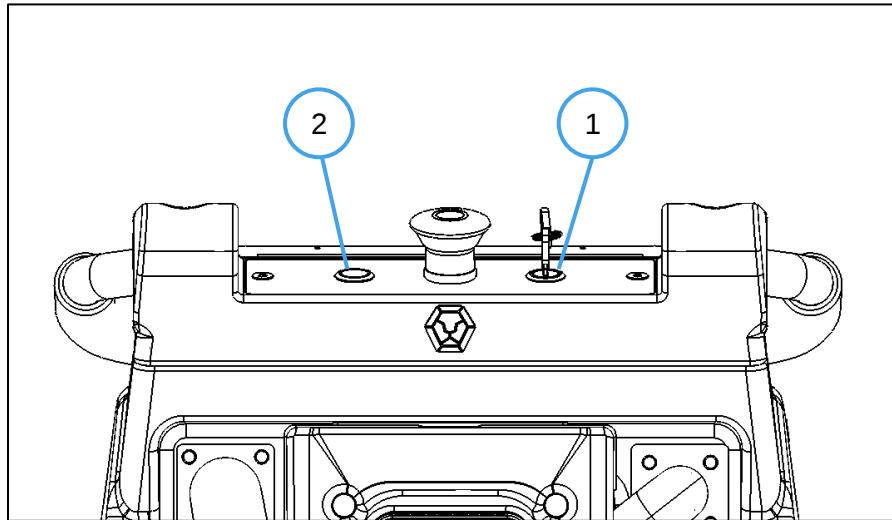

Fig. 1
1. Insert Key into switch as shown (Fig. 1 -1).